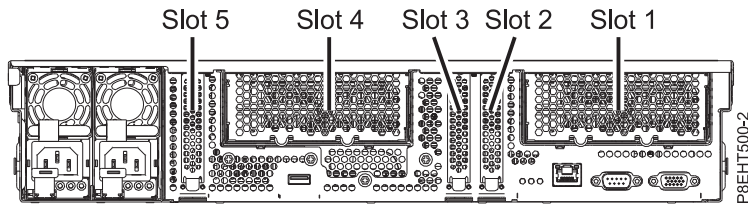

Figure 36. Rear view of a 8335-GCA or 8335-GTA system with PCIe slots indicated
2. Pick the correct slot for the PCIe adapter. See Figure 36 on page 33.